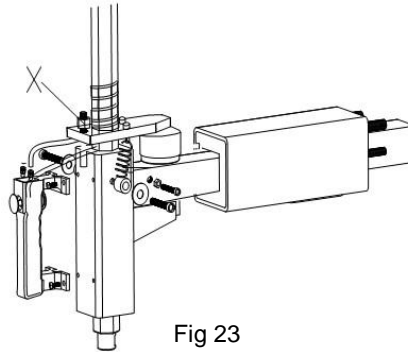

Fig 23
Note: If Vertical Arm not be locked or not meet the requirement that 2-3mm from the bottom of Mounting head/demounting head to rim, please adjust Hexagonal Locking Plate, refer to Fig 23 and adjust the (X).